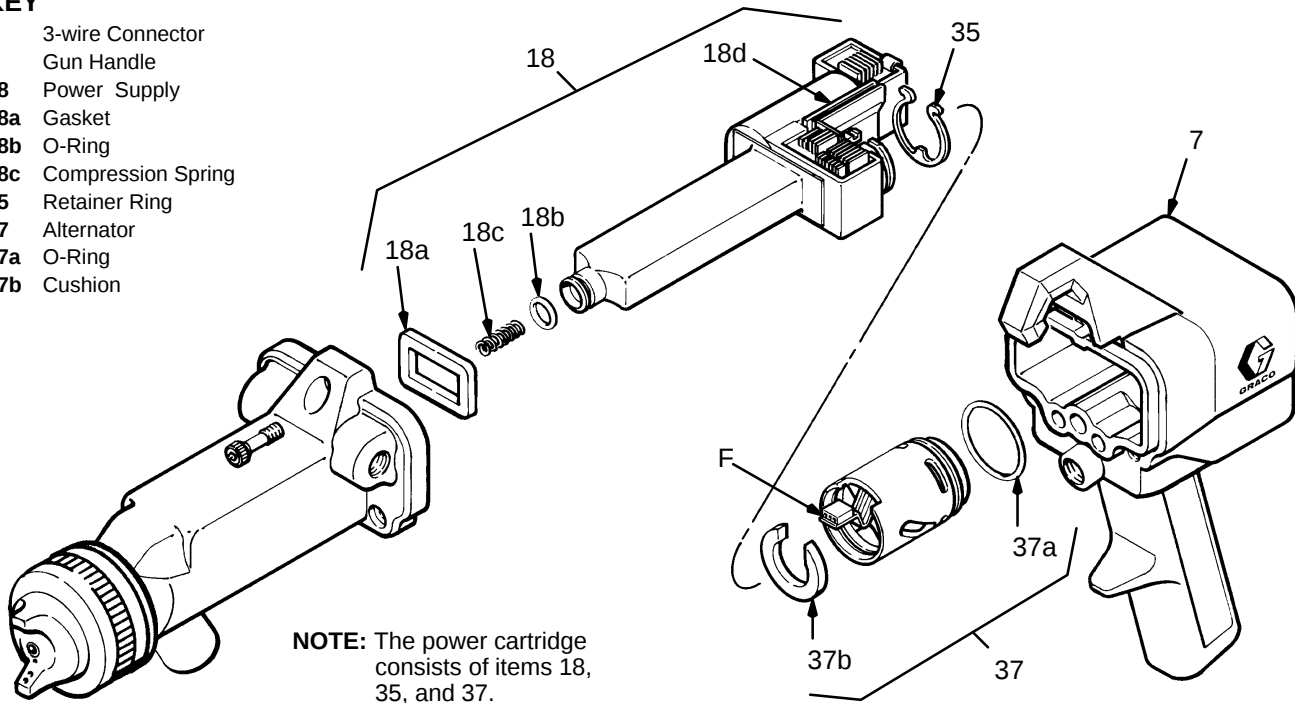

Fig 25
NOTE: The power cartridge consists of the alternator (37), power supply (18) and retaining ring (35). See Fig 25.
2. Squeeze the two ends of the retaining ring (35) together and carefully pull the alternator (37) away from the power supply until the connector (F) disengages. See Fig 25.
3. Using an ohmmeter, test the coil in the turbine alternator. Measure the resistance between the two outer terminals of the 3-wire connector (F). The resistance should be 3 to 5 ohms. If the reading varies from this value, replace the alternator.